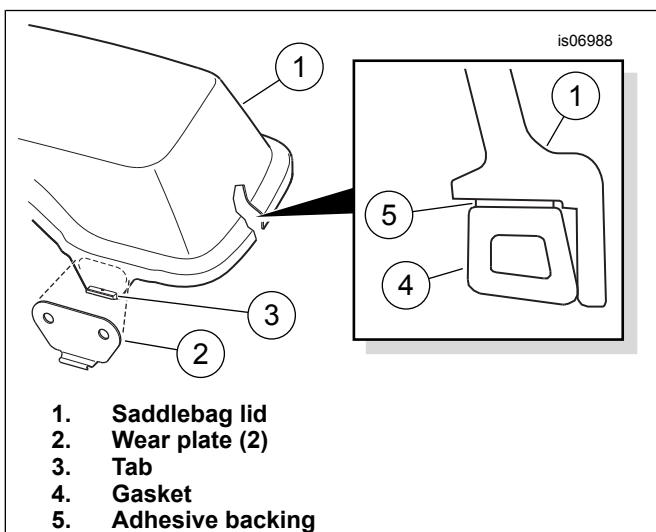

Figure 2. Assemble Wear Plates and Gasket to Saddlebag Lid
- See Figure 2. Remove the liner from the adhesive backing of one of the wear plates (2). Carefully position the wear plate to the saddlebag lid (1), centering it on the tab (3), and press firmly into place. Hold the wear plate in position with steady pressure for about a minute. Repeat with the second wear plate at the other end of the lid.
- Orient the gasket with the **tall edge** toward the outer lip of the cover as shown in Figure 2.
- Gradually remove the liner from the adhesive backing (Figure 2, Item 5) of the saddlebag lid gasket (4) as the gasket is pressed into place around the inside perimeter of the lid (1) as shown.